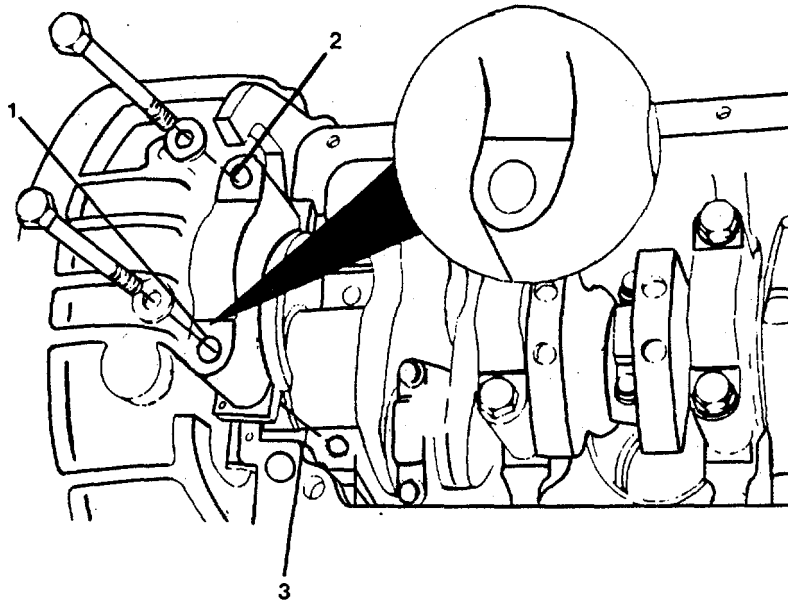

FIGURE 4-45. Bearing Cap Location Marks.
The main bearing caps are marked for position (1, Figure 4-45) on the camshaft side and the cylinder block identification (2) on the exhaust side. The cylinder block identification number (3) is stamped on the pan rail on the camshaft side of the block. Install the caps in the correct position with the position number to the camshaft side and its part number toward the rear of the engine.
- (9) Install the main bearing caps as follows: